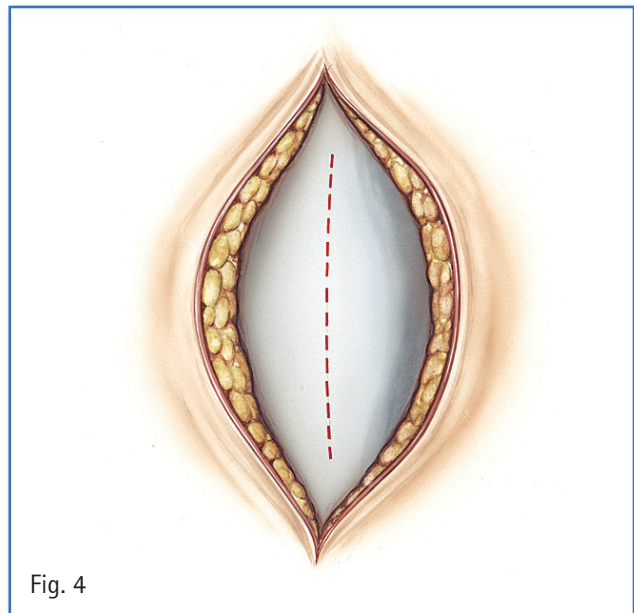

Fig. 4
- A longitudinal skin incision is made over the spinous processes of the appropriate vertebrae and the fascia and ligaments are incised (Fig. 4).